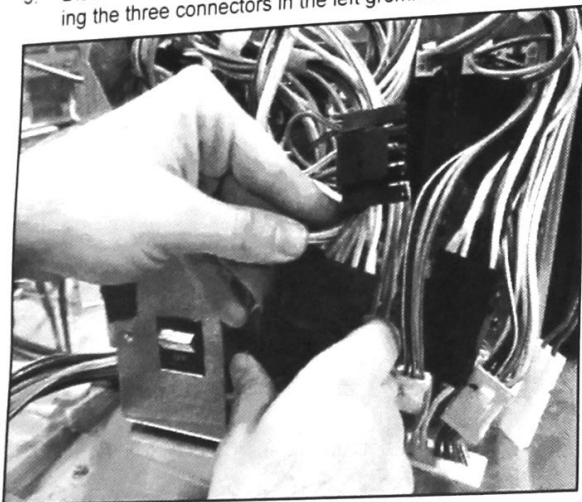

FIGURE 7
9. Disconnect freezer compartment connections by disconnecting the three connectors in the left grommet. See Figure 7.